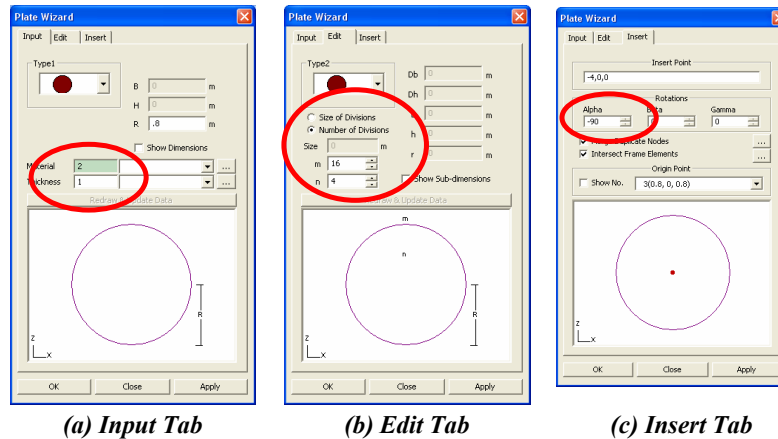

Figure 5.5 Plate Wizard window
Use **Structure Wizard** to create the portion of the circular column within the lower plane of the footing (Fig.5.5).
2. Select the circular plate () in the **Type1** selection field of the **Input** tab (Fig.5.5(a)).
6. Select “**Number of Divisions**” in the **Edit** tab (Fig.5.5(b)).
10. Enter “-90” in the **Alpha** field of **Rotations** (Fig.5.5(c)).